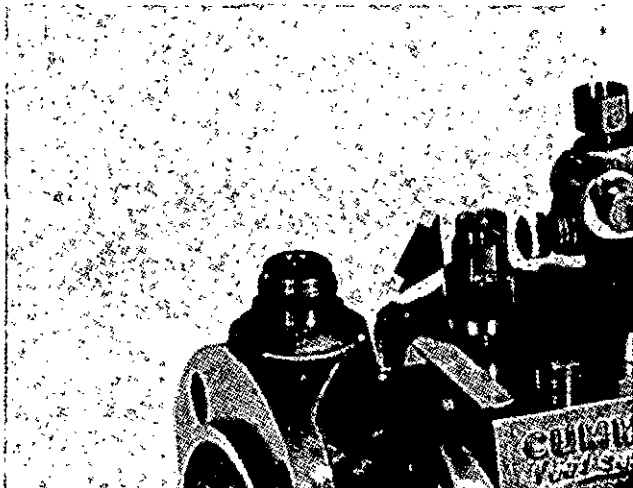

Fig. 15-7 (F5386). Hydraulic ASA installed on a fuel pump.
- b. The ASA now in use, is in the top of the fuel pump housing. This is a hydraulic ASA, Fig. 15-7.